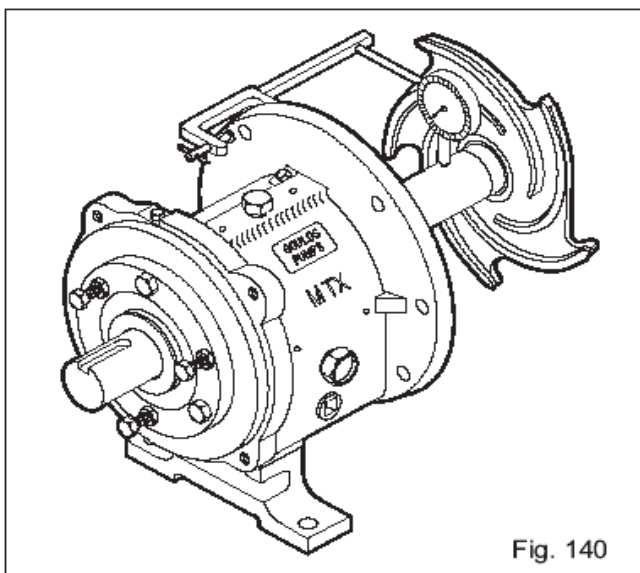

Fig. 140
3. Check shaft/sleeve runout. Put on shaft sleeve (126) if used, and thread on impeller, hand tight. Rotate shaft 360 degrees. If total indicator reading is greater than 0.05 mm, disassemble and determine cause. Remove impeller and shaft sleeve (Fig. 140).